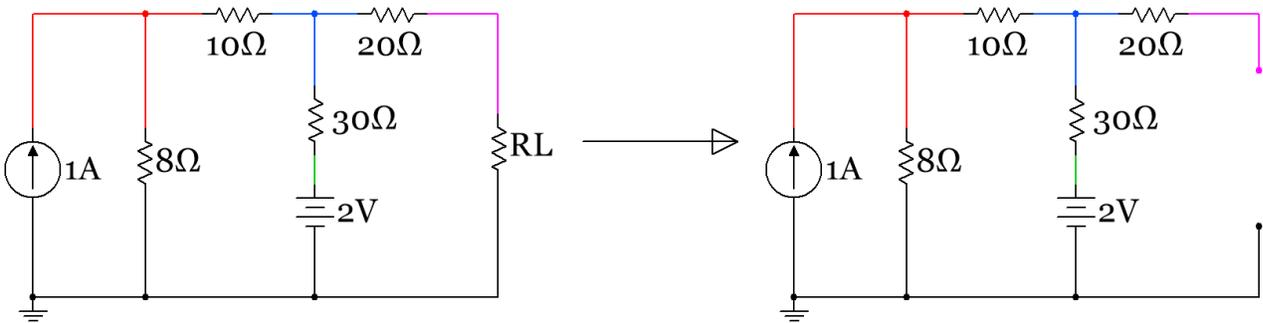
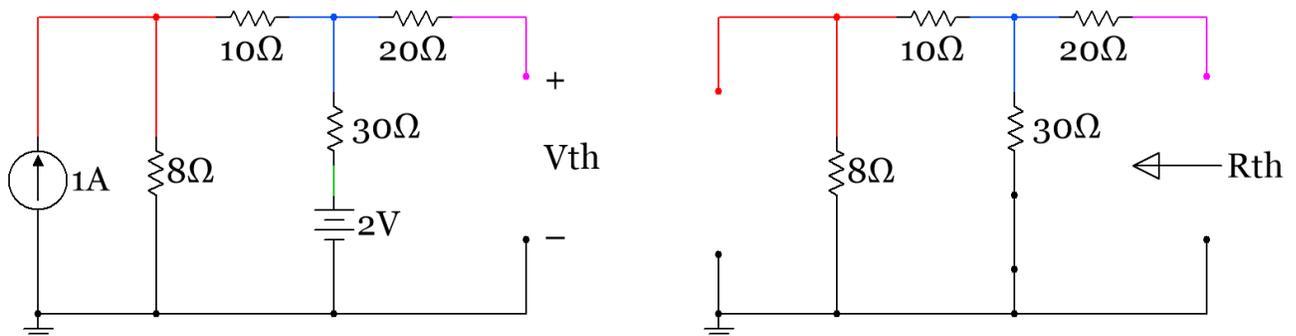
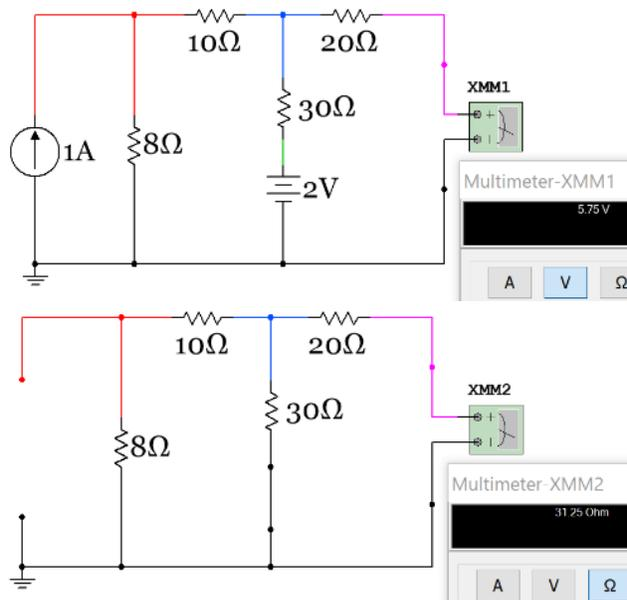

Figure 2.42: First step when asked to find the Thevenin equivalent circuit “external to R_L ”
Figure 2.43: Sub-problem 1 (Find V_{th} – left circuit), Sub-problem 2 (Find R_{th} – right circuit)
Figure 2.44: Multisim used to measure V_{th} (5.75 V) and R_{th} (31.25 Ω)
The reason finding the Thevenin equivalent circuit is an important circuit technique is that it allows a complicated circuit with multiple voltage and/or current sources and as many resistors as imaginable to be replaced with one independent source and one resistor (in either Thevenin or Norton form). There is usually not a need to solve for the Norton equivalent circuit because it is just as easy to just find the Thevenin equivalent circuit and then transform it to Norton form using the simple method explained in section 2.1. You can find the Thevenin equivalent circuit “external to” a specific resistor in a circuit by first removing that resistor from the circuit as shown in Figure 2.42.
1. **Find R_{th}** (or R_n) by “zeroing out” all sources (short voltage sources & open current sources) and combine resistors towards the spot in the circuit (i.e. where R_L was removed in Figure 2.42) where you are finding the Thevenin equivalent circuit “external to” as shown in Figure 2.43.
2. **Find V_{th}** by calculating the open circuit voltage across the spot in the circuit where you are finding the Thevenin equivalent circuit “external to” as shown in Figure 2.43.
Multisim can be used to determine V_{th} and R_{th} by using Multimeters in Volts and Ohms mode respectively. Figure 2.44 shows how to set up the measurements in Multisim.
Example 2.18) determine the Thevenin equivalent circuit external to R_L in Figure 2.43 by calculating V_{th} and R_{th} and compare the results to those measured by Multisim in Figure 2.44.
Sub-problem 1 – Find R_{th} by combining resistors in a similar fashion as done in section 1.2. In Module 1 you were advised to start with combining the resistors as far away from the voltage or current source as possible. For Thevenin equivalent circuit problems you should start with combining resistors as far away from the spot in the circuit where the R_{th} is to be found (as shown by the arrow in Figure 2.43). The following figure shows how R_{th} is calculated with the circuit redrawn each time a resistor is combined. As shown in Module 1 if you become skilled in combining resistors you could write the equation for R_{th} by inspection as: $R_{th} = [(8+10) \parallel 30] + 20 = 31.25 \Omega$
Sub-problem 2 – Find V_{th} by solving for the open circuit voltage shown in Figure 2.43. The easiest way to do this is to transform the 1A current source to a voltage source so a one loop circuit is left. Notice that the 20Ω resistor is in series with an open circuit so it has no effect on V_{th} (No current flowing through it means no voltage drop across it). The 20Ω resistor only has an effect on R_{th} in this circuit. The following figure shows the circuit transformed and the 20Ω resistor removed since it has no effect on V_{th} .